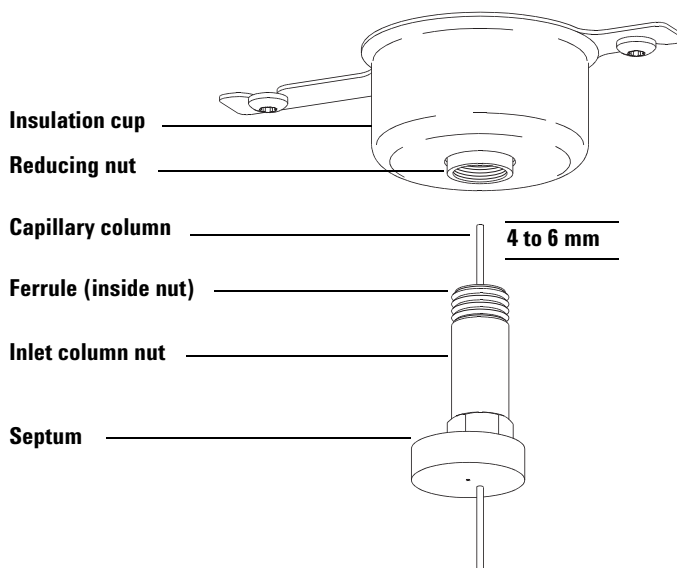

Figure 3 Installing a capillary column for a split/splitless inlet
- 7 Position the septum under the column nut so that the column extends 4 to 6 mm past the end of the ferrule (**Figure 3**).